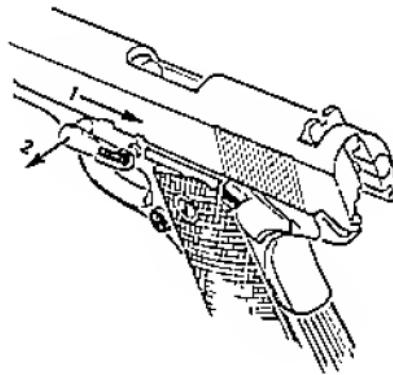

FIGURE 7—REMOVING SLIDE STOP
5. Pull slide to rear until lug on slide stop is opposite disassembly notch (See Figure 7) and push rounded end of pin of slide stop (on right side of receiver) inward and through receiver to disengage slide stop from slide.
6. Lift out slide stop. (See Figure 7).